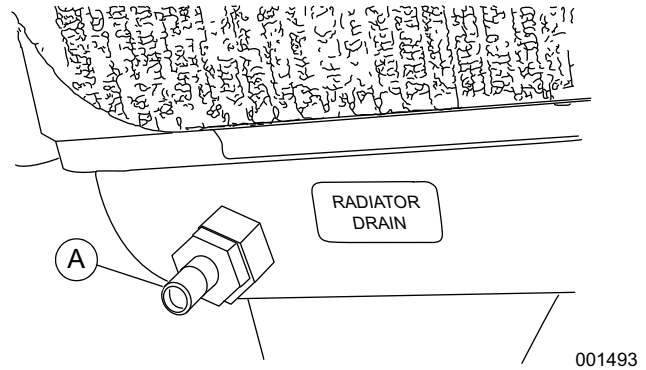

Figure 5-13. Radiator Drain Location
6. See Figure 5-13. Rotate hex fitting to open drain screw (A).